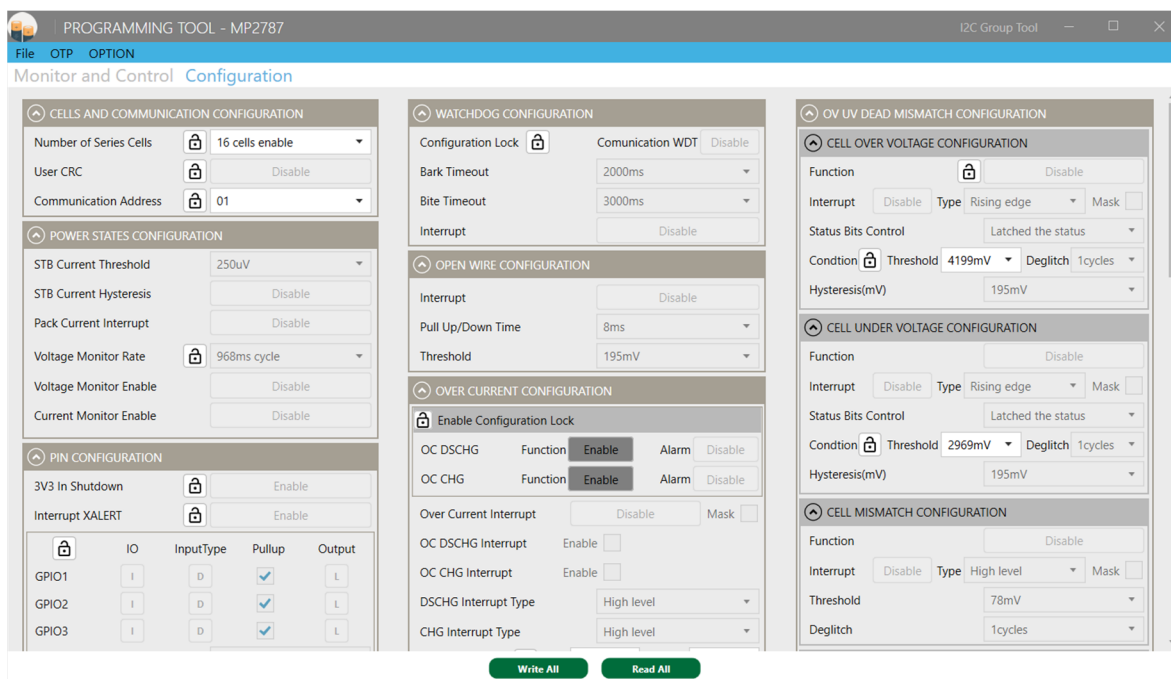

Figure 16: NVM View
- In NVM view, all parameters that are not relevant to MTP cannot be modified. Any other parameters can be modified as necessary (see Figure 16).